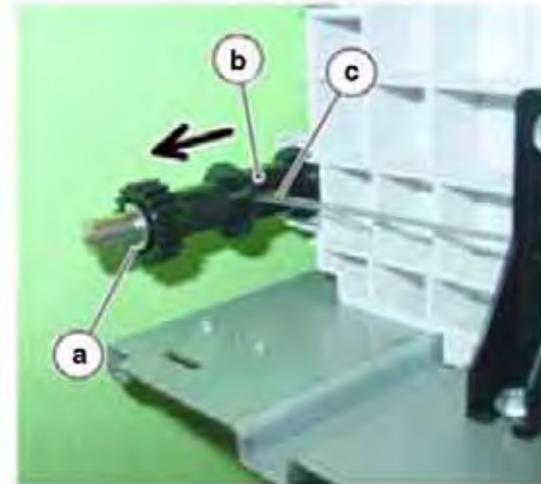

Figure 4 Cable Release
6. Release the Cables from the Shaft (Figure 4):